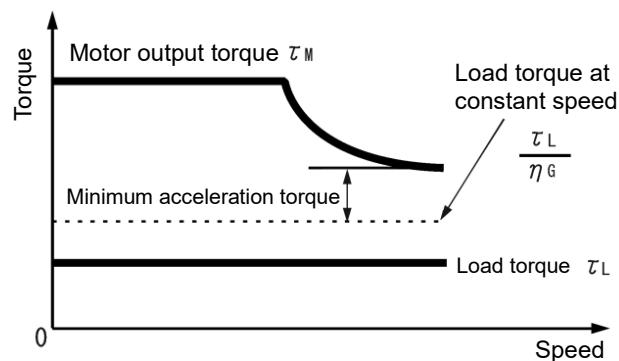

Fig. 10.2-2 Example study of minimum acceleration torque
2) Calculate the **minimum acceleration torque** (Refer to Fig. 10.2-2.)